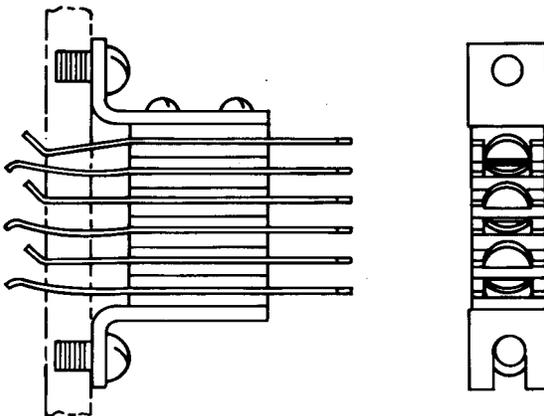

Fig. 16—395A Jack
2.16 395A: This multicontact jack (Fig. 16) is arranged for a 240B plug. The jack is used with the SD-31428-01 outgoing repeater circuit in Step-By-Step Telephone Systems. This jack consists of two metal brackets between which are mounted three pairs of contact springs insulated from each other. The terminals are arranged for mechanically wrapped connections.